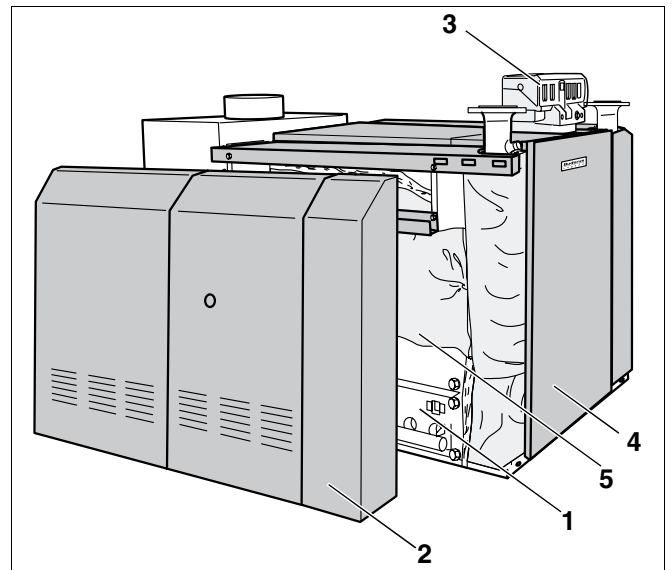

Fig. 1 Logano GE434
The Logano GE434 (Fig. 1) boiler comprises a r.h. and a l.h. boiler block, each of which is equipped with a separate gas burner.
- Boiler blocks (Fig. 1, **Item 5**) and gas burner (Fig. 1, **Item 1**).
- Boiler casing (Fig. 1, **Item 2**) and thermal insulation (Fig. 1, **Item 5**).
- Control device (Fig. 1, **Item 3**), auxiliary control device and two burner control units (one burner control unit for each burner).